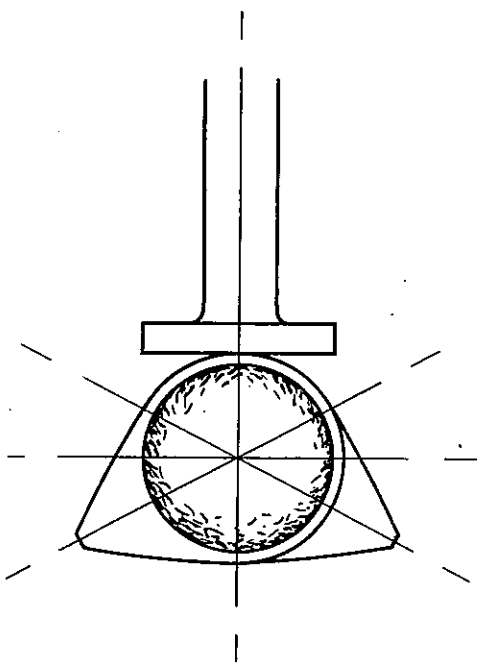

Fig. 20. Showing valve tappets on concentric portion of cams.
1. Turn the engine with the starting handle until No. 1 cylinder is at T.D.C. of the compression stroke *i.e.* with the valve tappets resting on the concentric portion of the cam, as shown in Fig. 20.